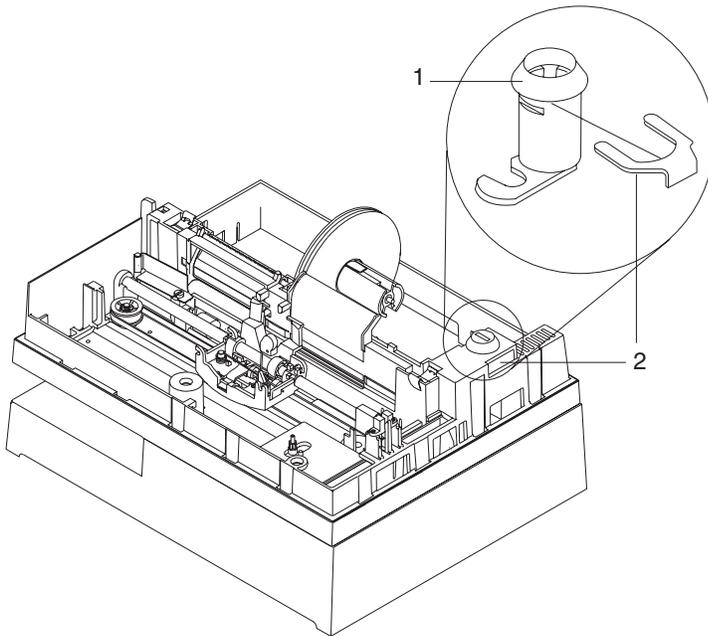

Figure 5-20. Keylock
- 3 Pull the retainer clip (2) down and toward the right side of the printer to release the keylock assembly (1) as shown in Figure 5-20.